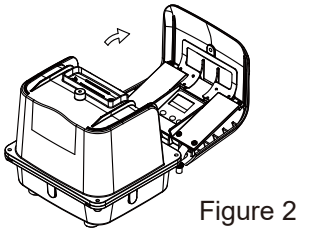

Figure 2
- ③Remove the filter cover as shown in Figure 2.